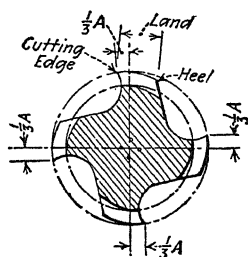

FIG. 176.—Relief of tap.
**195. Relief of Taps.**—The cutting edges of the chamfered portion of the tap are given clearance, that is, they are "backed off" or "relieved" the whole width of the land, otherwise the tap will not "bite." Further, in order to reduce the friction between the teeth of the tap and the work being tapped, the teeth are relieved about two-thirds the width of the land (Fig. 176). The remaining third of the land back of the cutting edge remains the full cutting size so that the tap may be ground on the face of the teeth several times without changing the size.